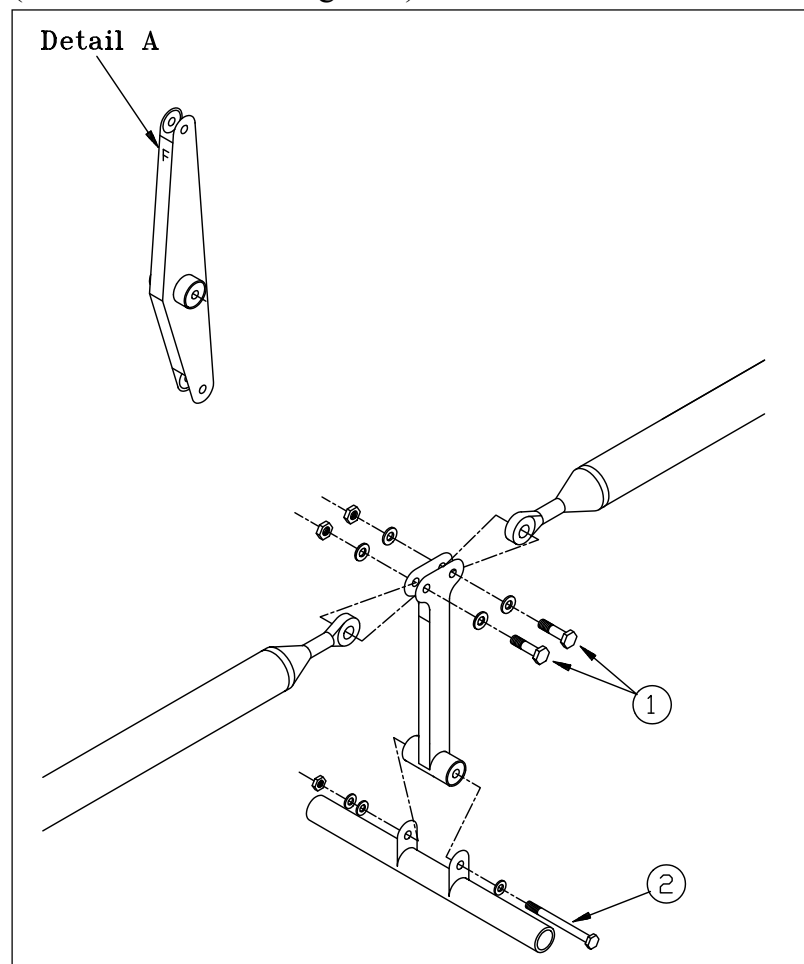

Figure 8 *Control Levers and Rods Removal/Installation*
Refer to Figure 8. All control rods are attached to the control levers in the same way with AN bolts, washers and self-locking nuts. The control rods inside the wing are interconnected by ground bonding leads fastened to the rod ends by additional nuts. So the rod ends have to be disassembled, when the ground bonding leads shall be disconnected. In this case also refer to Length Adjustment Paragraph.
Refer to Figure 8.
- 3 Remove the M5 attachment bolt (2).
- 5 Reverse procedure to install the bellcrank using sufficient washers (min. 2) at the nut side of the bolt to cover the shank (except the rocker type bellcrank: use only one washer on each side). Replace the selflocking nuts. Observe the first Note of Chapter 27-00-00. To ensure installation of the elevator rocker type bellcrank in the correct direction this bellcrank is marked by an "F" which indicates the front side (refer to Detail A of Figure 8).